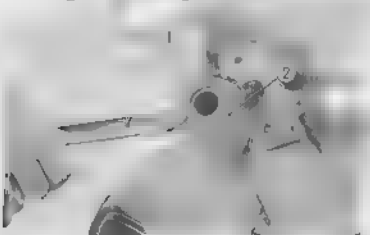

Fig. 4.35 Removing steering head top thread (CT 90)
6. Using a 36 mm hook spanner ① Tool No 07072~00 0 remove the steering head top thread ② (Fig. 4.35)